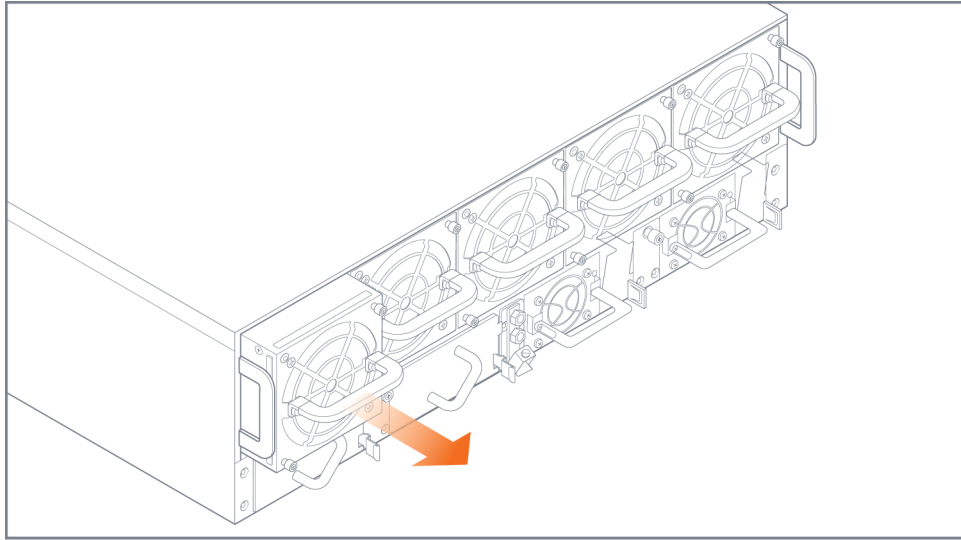

Figure 4-8: Fan Module Removal
3. Pull the failed fan module out of the slot and set it aside. Refer to Figure 4-8 on page 78.